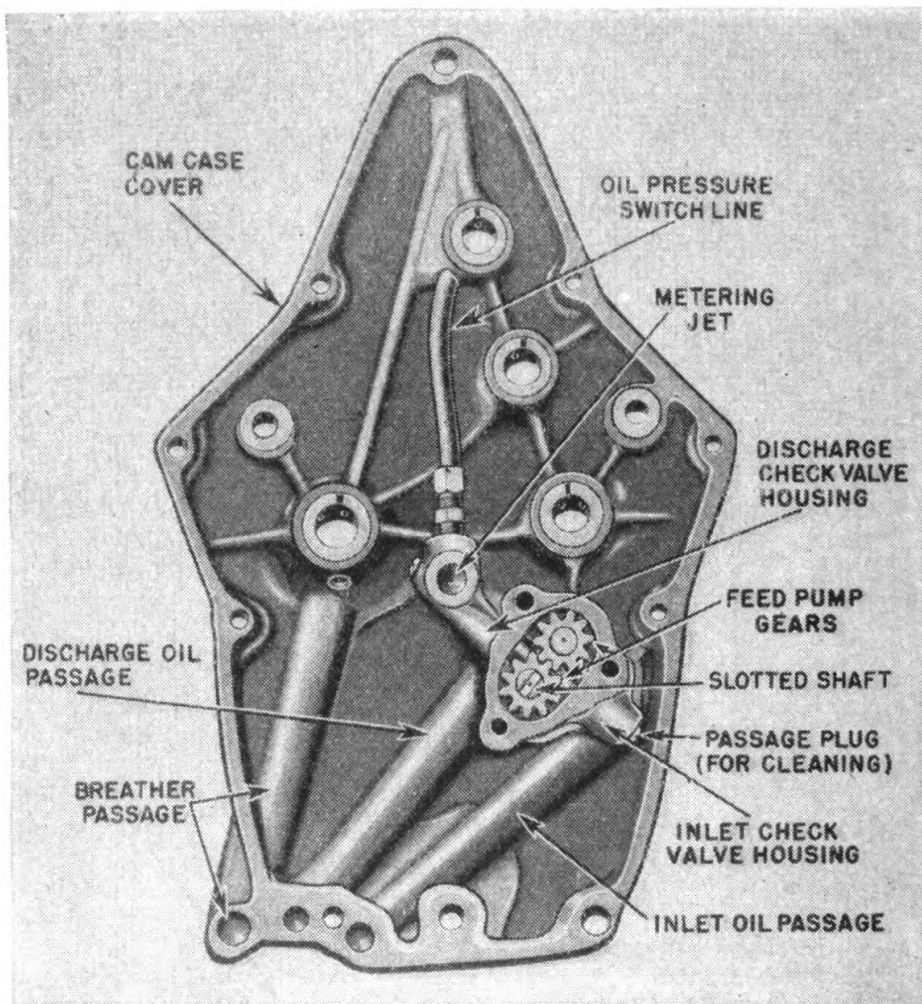
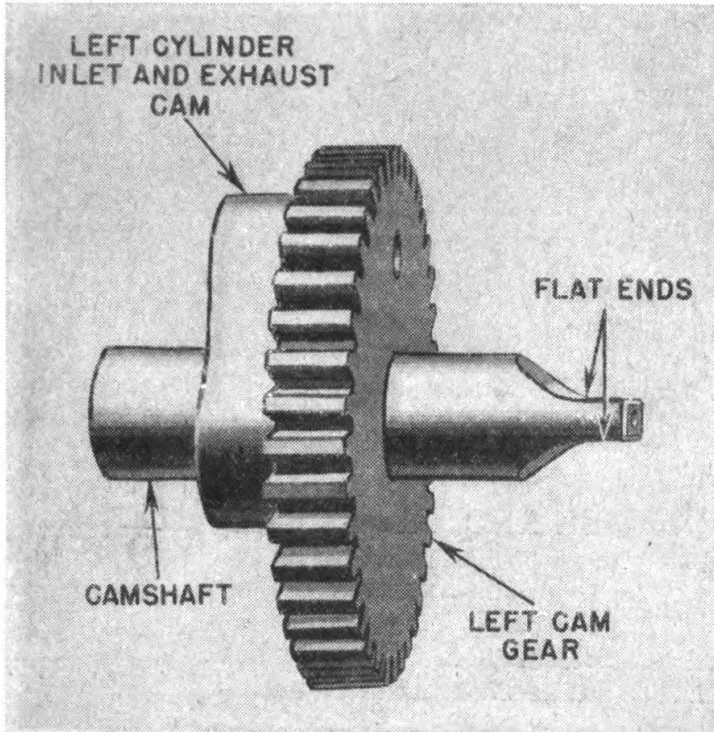

FIGURE 76.—Feed and scavenger pumps of Indian shaft-driven motorcycles.
FIGURE 77.—Indian camshaft breather valve.
are inclosed in a single housing, divided by a cast-in wall inside the cam case cover (fig. 76). The gear diameters of the two pumps are equal, but the scavenger pump is four times as wide as the feed pump. This means that the capacity of the scavenger is greater than that of the feed pump, enabling it to prevent oil from accumulat-
(4) A breather pipe along the lower left side of the motorcycle is screwed into an air hole at the bottom of the cam case. This hole extends up to the sleeve (fig. 76) into which a projection of the left-cylinder camshaft fits snugly. The sleeve has two opposing slots. One slot is alined with the airhole, and the other is alined with a hole in the cam case. The projection of the camshaft (fig. 77) is